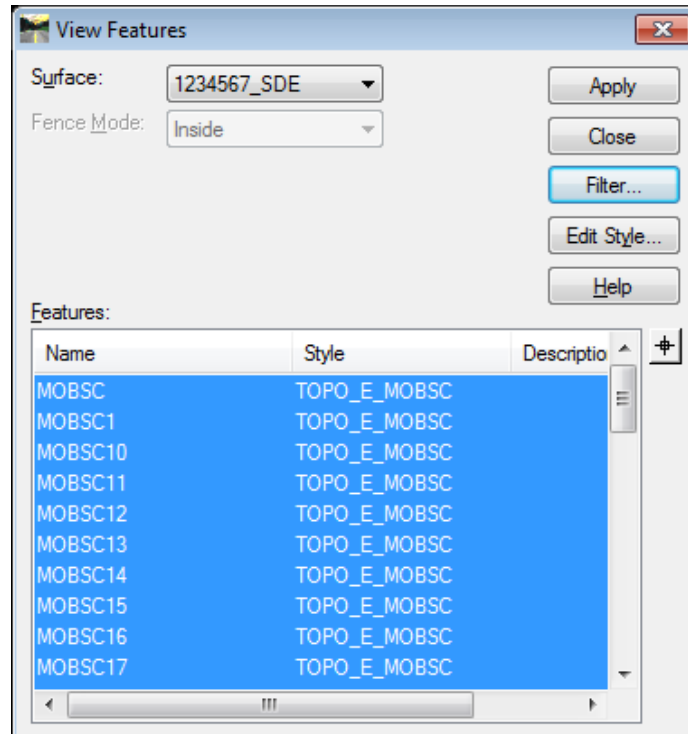

Figure L9-6 View Features
- The inputs in the **View Features** dialog box should now correspond to the screen capture depicted in *Figure L9-6* (as shown below). Verify to ensure that your input matches the screen capture.